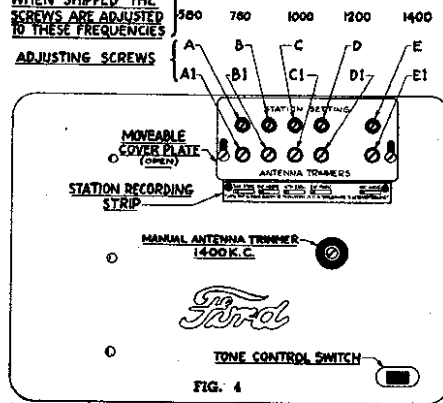

FIG. 4
AUTOMATIC TUNING ADJUSTMENTS: 1. Turn the receiver on and allow it to operate until thoroughly heated. Loosen the screws holding the cover plate over the automatic adjustments, and slide it upward exposing the adjusting screws and recording strip. This plate is on the front of the receiver. (See Fig. 4.)
3. With a small screw driver, turn the station setting screw A (see Fig. 4) in the upper row to the right or left until that station is tuned in accurately. Now adjust the corresponding screw A1 in the lower row until maximum volume is obtained. Make these adjustments very carefully as it is quite easy to pass the resonant point due to the unusual selectivity of the receiver.